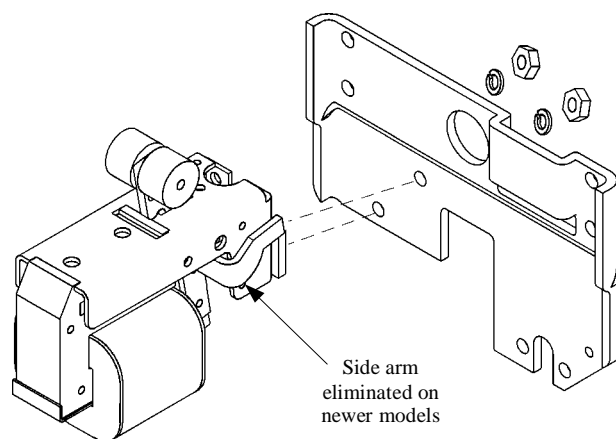

Figure 3. Mounting the Shunt Trip on its bracket.
4. Slide the two studs on the mounting surface of the Shunt Trip module through the two holes in the mounting bracket, as illustrated in Figure 3. Secure with the lock washers and nuts supplied.